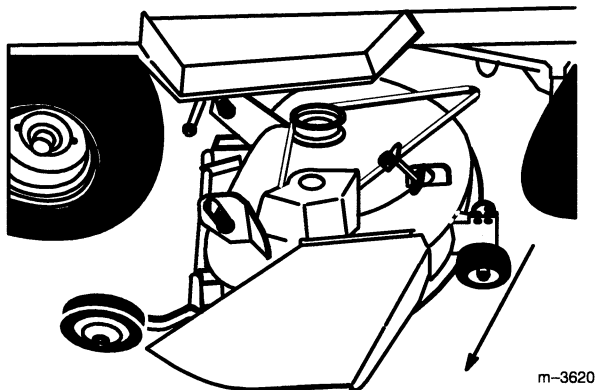

Figure 14
- Turn the front wheels fully to the left and raise attachment lift lever all the way to the latched position; refer to tractor Operator's Manual. Slide the mower out from under the chassis to the right side (Fig. 14)